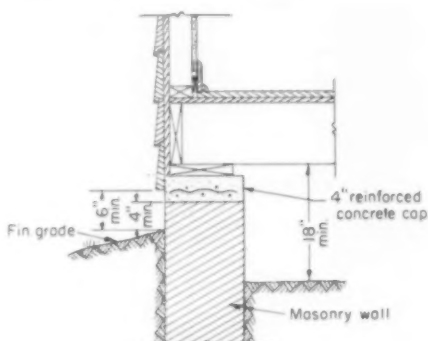

FIG. 4⁽¹³⁾
- masonry walls or piers capped with a minimum of 4" of reinforced poured concrete or its equivalent will also be effective (see fig 4).